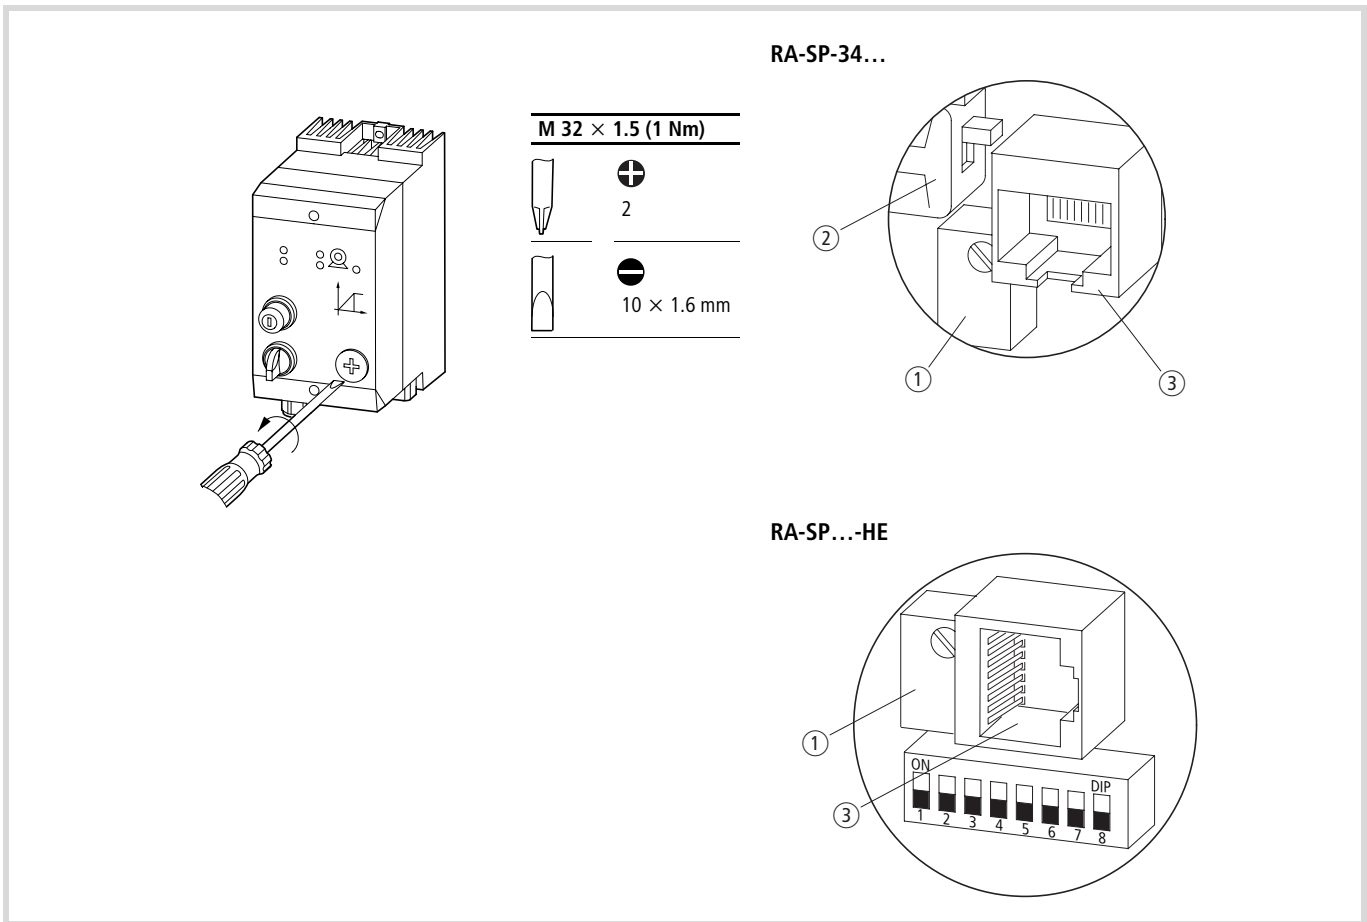

Figure 109: Modification of default setting for frequency, direction and parameters
- ① Spindle potentiometer n_0
- ② Direction reversal
- ③ Serial interface RS 422 (RJ45)
- ④ DIP switch
① Spindle potentiometer n_0 (→ fig. 109)
② **Phase reversal** (→ fig. 109)
③ **Serial interface RS 422** (↔ fig. 109)